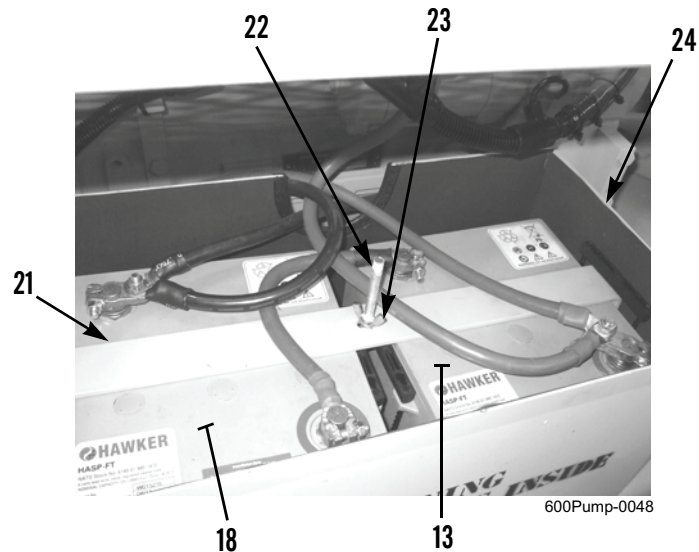

Figure 3. Batteries.
- a. Remove wingnut (Figure 3, Item 23) from threaded retaining bolt (Figure 3, Item 22).
- b. Remove battery holddown (Figure 3, Item 21) from top of batteries (Figure 3, Items 13 and 18).
- c. With assistance, lift batteries (Figure 3, Items 13 and 18) from battery box (Figure 3, Item 24), using handles provided on each side of battery.
- b. With assistance, lift batteries (Figure 3, Items 13 and 18) and place in battery box (Figure 3, Item 24), using handles provided on each side of each battery.